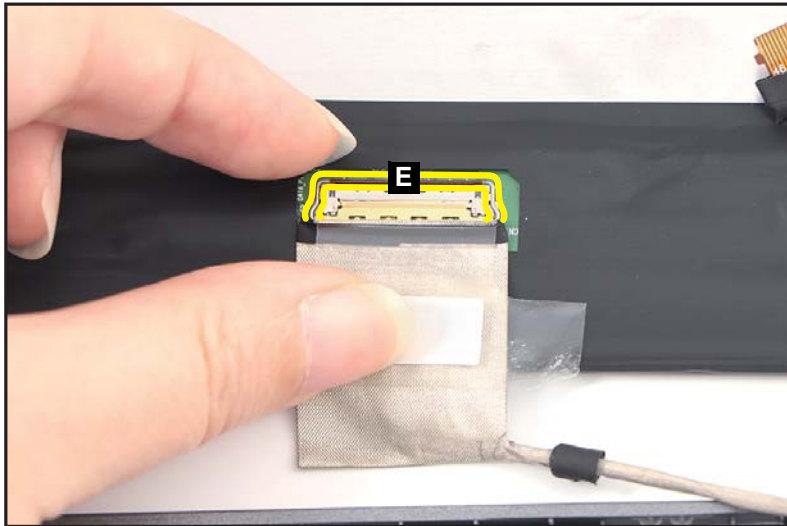

Figure 1-56. LCD Panel Removal
4. Lift the latch (E) securing the LVDS cable (Figure 1-56).